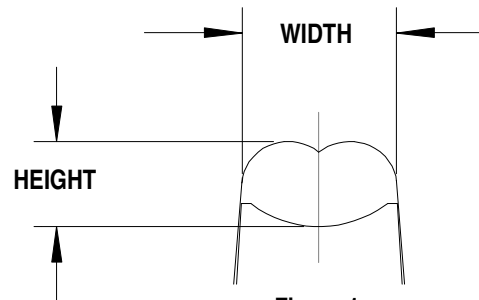

Figure 1
- Solder crimp heights are supplied for tool calibration only. To verify tool calibration, insert solder slug (5% tin and 95% lead) into the crimping profile of the hand tool. Close the hand tool completely, as if a terminal and wire combination is present. Measure the solder for crimp height and width. See Figure 1. Actual crimp heights will vary with every terminal, conductor, and insulation combinations.